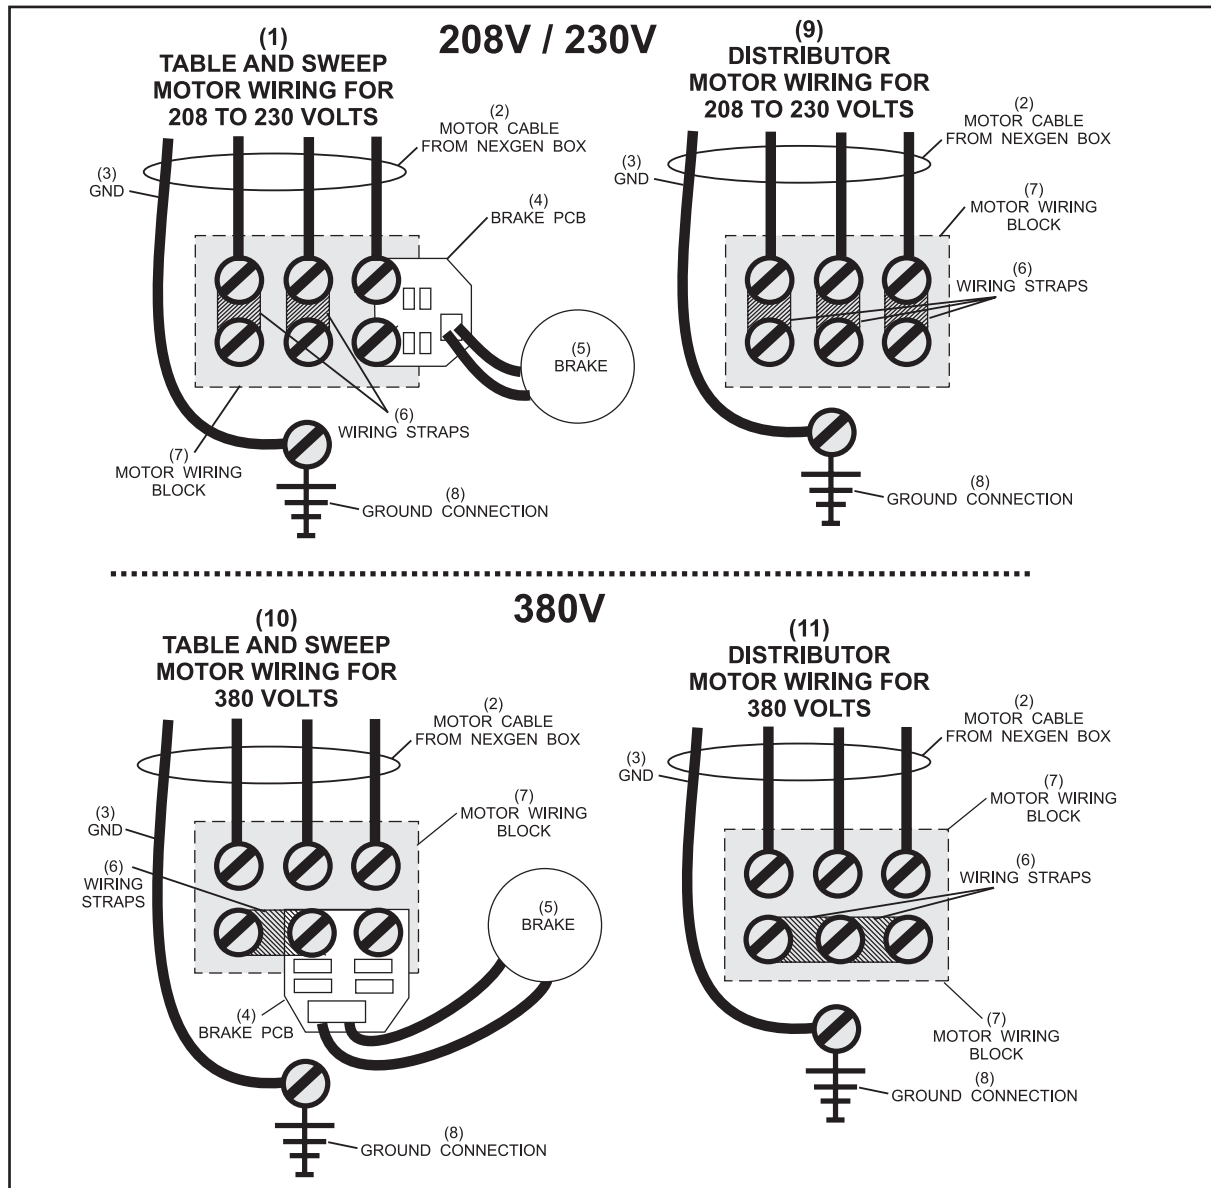

Figure 8-12. Table, Sweep and Distributor Motor Wiring.
6. Install the motor onto the pinsetter and wire it for proper voltage. Verify that the wiring straps and Brake PCB (if applicable) are properly attached. Refer to *Figures 8-12* and *8-13*.